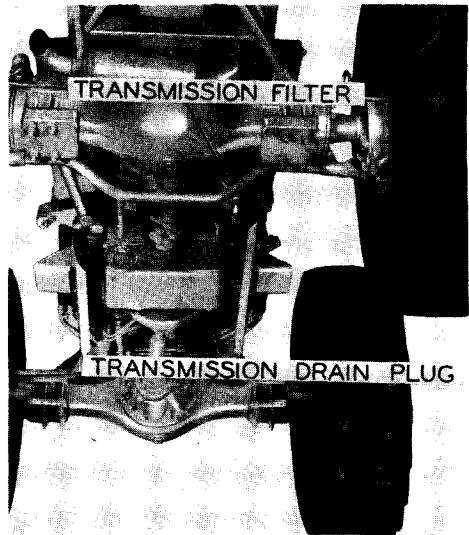

Figure 14. Transmission Drain Plug
1. Remove the drain plug from the transmission, Figure 14.